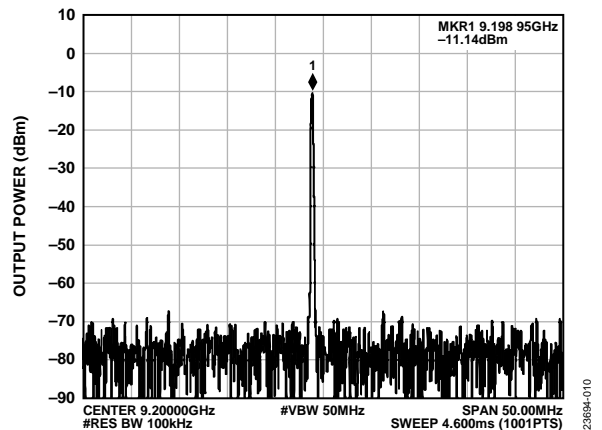
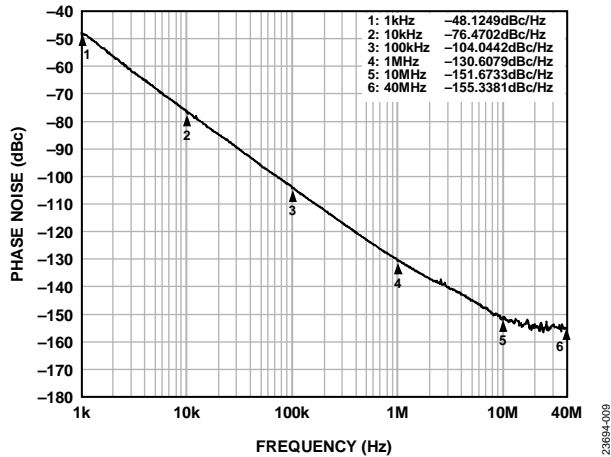
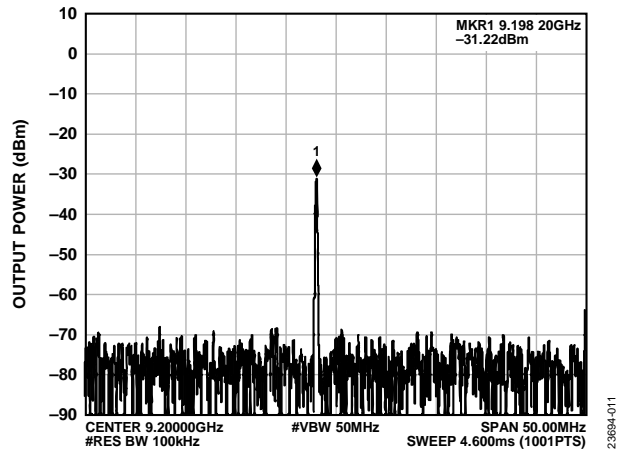

Figure 7. EV1HMC8074LP6G RF2 Output at VCO Band 1, VTUNE = 8.45 V, 9.2 GHz, Buffer Amplifier Enabled, VCB = 1, Includes Insertion Loss of the RF Cable
Figure 8. EV1HMC8074LP6G Open-Loop Phase Noise at RF2, VCO Band 1, VTUNE = 8.45 V, 9.2 GHz, Buffer Amplifier Enabled, VCB = 1
Figure 9. EV1HMC8074LP6G RF2 Output at VCO Band 1, VTUNE = 8.45 V, 9.2 GHz, Buffer Amplifier Disabled, VCB = 1, Includes Insertion Loss of the RF Cable
5. Repeat Step 2 through Step 4 to measure the RF2 spectrum and open-loop phase noise. Figure 7, Figure 8, and Figure 9 show the typical expected results of the RF2 spectrum and open-loop phase noise. The RF2 output power is approximately 10 dB less than the output power measured at RF1.